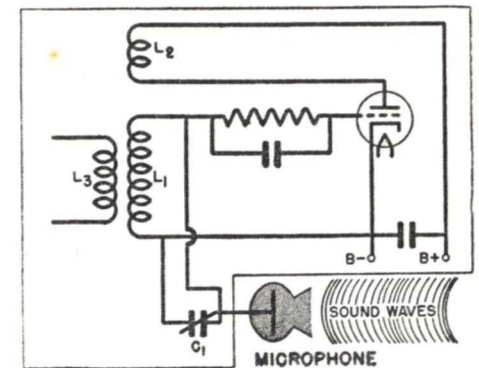

FIG. 24. This simple circuit shows one possible way of frequency-modulating an oscillator. Of course, practical circuits are far more complex.
► The actual circuits used for frequency modulation contain a number of stages and are rather elaborate. However, their fundamental operation can be shown by Fig. 24.